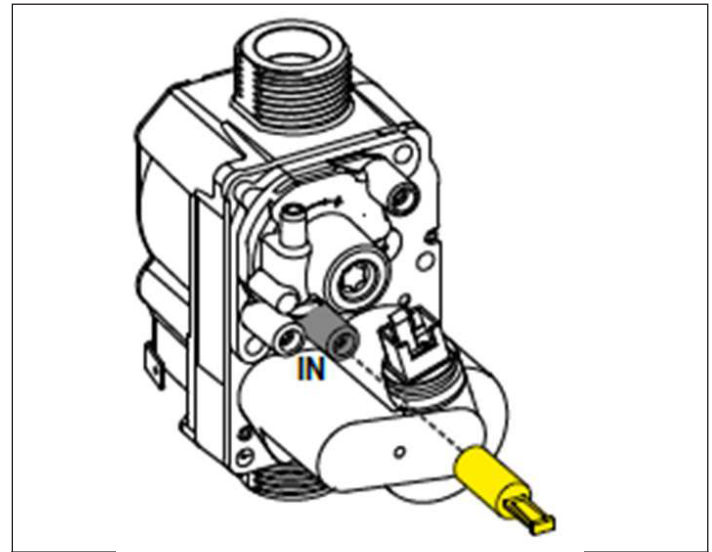

Figure 56 - Remove Yellow Cap
NOTE: Refer to Figures 56 and 57 when checking gas pressure. Loosen the bolts before checking the gas inlet pressure.
1. Remove yellow cap from line pressure test point. See Figure 56.